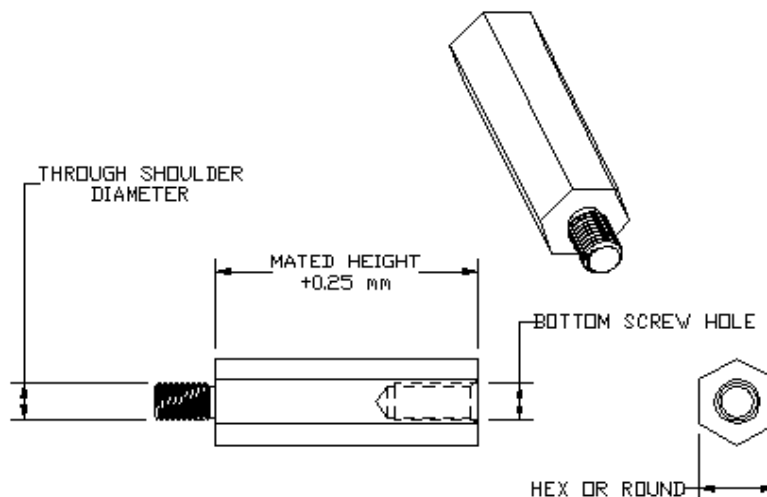

Figure 13: PCB Standoff
- Standoffs are not provided with connectors. A typical standoff is shown in figure 13 and can be purchased from hardware vendors.